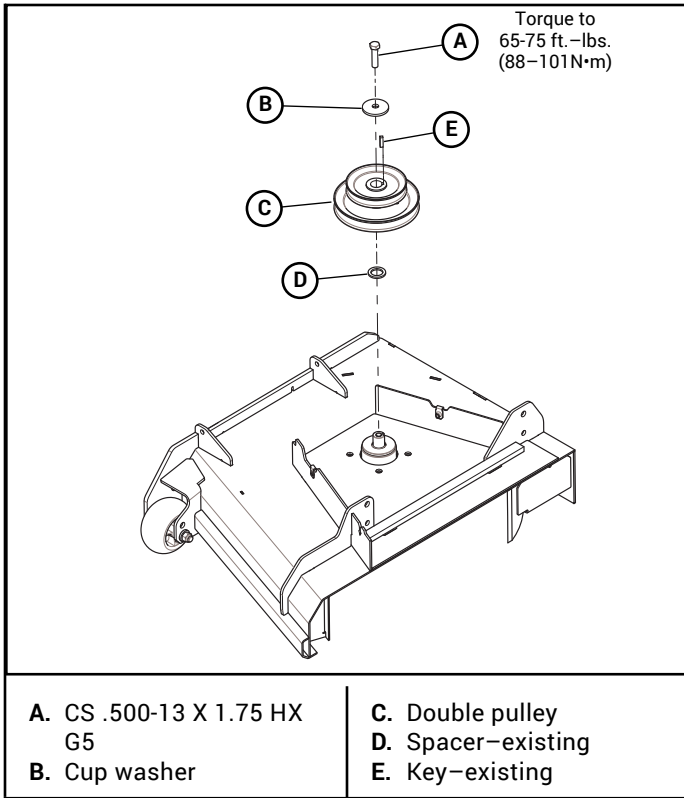

Figure 3-22
5. Replace the pulley with the double pulley and place the new cup washer between the head of the new bolt and the drive pulley. Thread the cup washer and bolt assembly into the spindle shaft. Torque the bolt to 65–75 ft.-lbs (88–101N•m). Figure 3-22